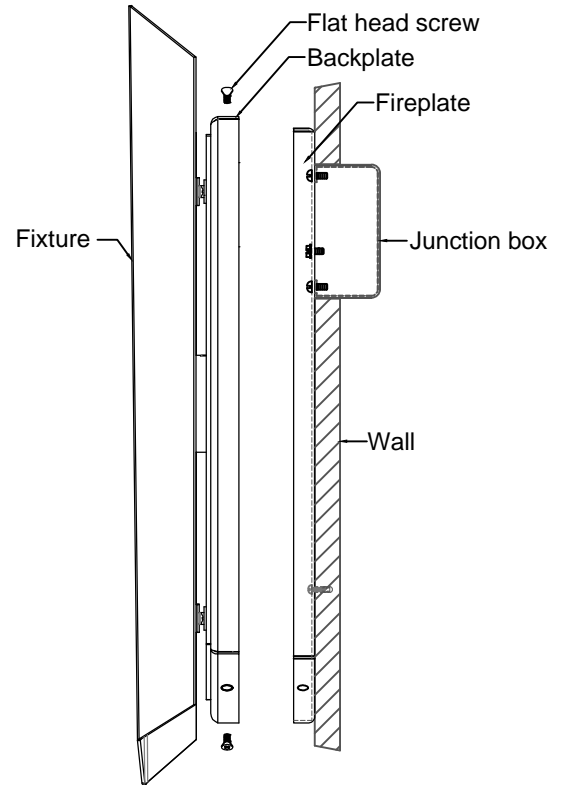

FIGURE-02
5. Attach the fixture to the fire plate and secure it with flathead screws (See Figure-02)